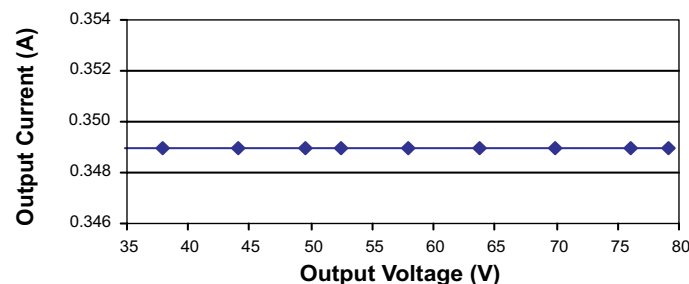

Fig. 3 Output Current vs. Output Voltage
2. Current Regulation: Figs. 3 and 4 show the output current regulation vs. output voltage and input voltage respectively. The total current regulation (line and load combined) is found to be less than 1%.